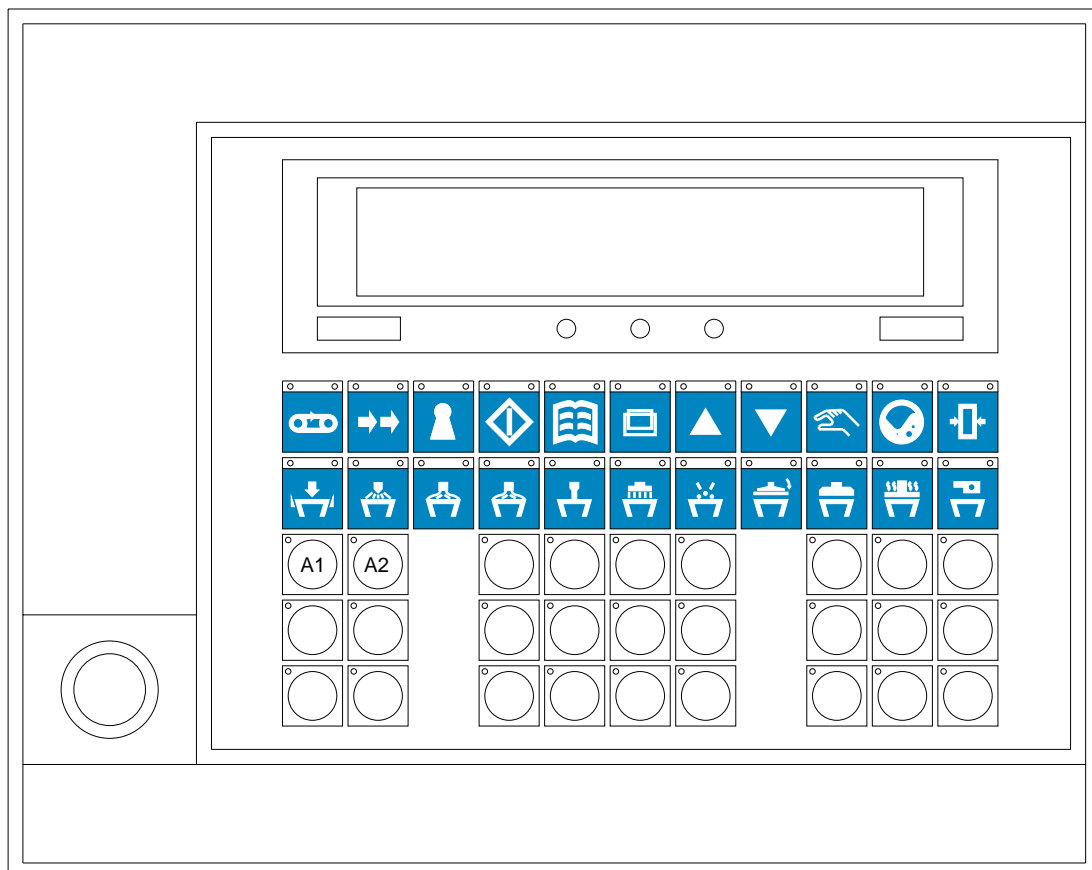

Fig. 6.26
The dosing station is activated by pressing the "ice cream dosing" button   (Fig. 6.26) which automatically closes the bypass.
is activated using the “pencil filler” button  (*Fig. 6.26*).
To start heating the chocolate, press the “chocolate tank heater” button A1 (*Fig. 6.26*).
To keep chocolate circulating from the tank to the sprayer and back again while the machine is stopped, press the “chocolate sprayer” button  (*Fig. 6.26*).
The water in the chocolate tank jacket must be heated at least half an hour before use. The water heater is switched on by pressing button A1 (*Fig. 6.26*).
button  (*Fig. 6.26*).
The station is activated by pressing button  (*Fig. 6.26*). The vacuum control and the rotation of the cylinder are adjusted by means of the corresponding cams.
(*Fig. 6.26*) and adjusted by means of cams through the operator interface, with the appropriate inputs in the electronic programmer.
The process is activated by pressing button  (*Fig. 6.26*) and controlled by cams through the operator interface which controls the input to the electronic programme.
- b. Press the chocolate tank heater button A1 (Fig. 6.26).
- g. Position the bypass valves to feed the dosers by pressing button A2 (Fig. 6.26).
- i. Press the run and doser start-up button F9  (Fig. 6.26). The lamellas will start moving.
button  (*Fig. 6.26*) on the control panel.
The dosing station is activated by pressing the "ice cream dosing" button   (*Fig. 6.26*) which automatically closes the bypass.
The station is activated by pressing the button  (*Fig. 6.26*).